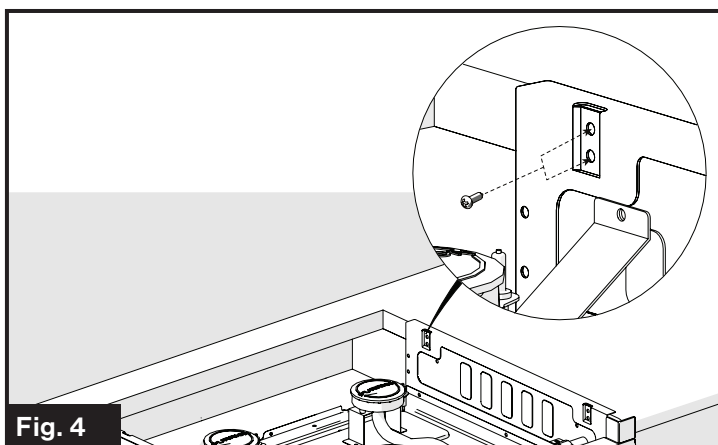

Fig. 4
- Fix the cooktop in the cabinet opening on both left and right using four self-tapping screws on both left and right (2 screws each side). (Fig. 4)